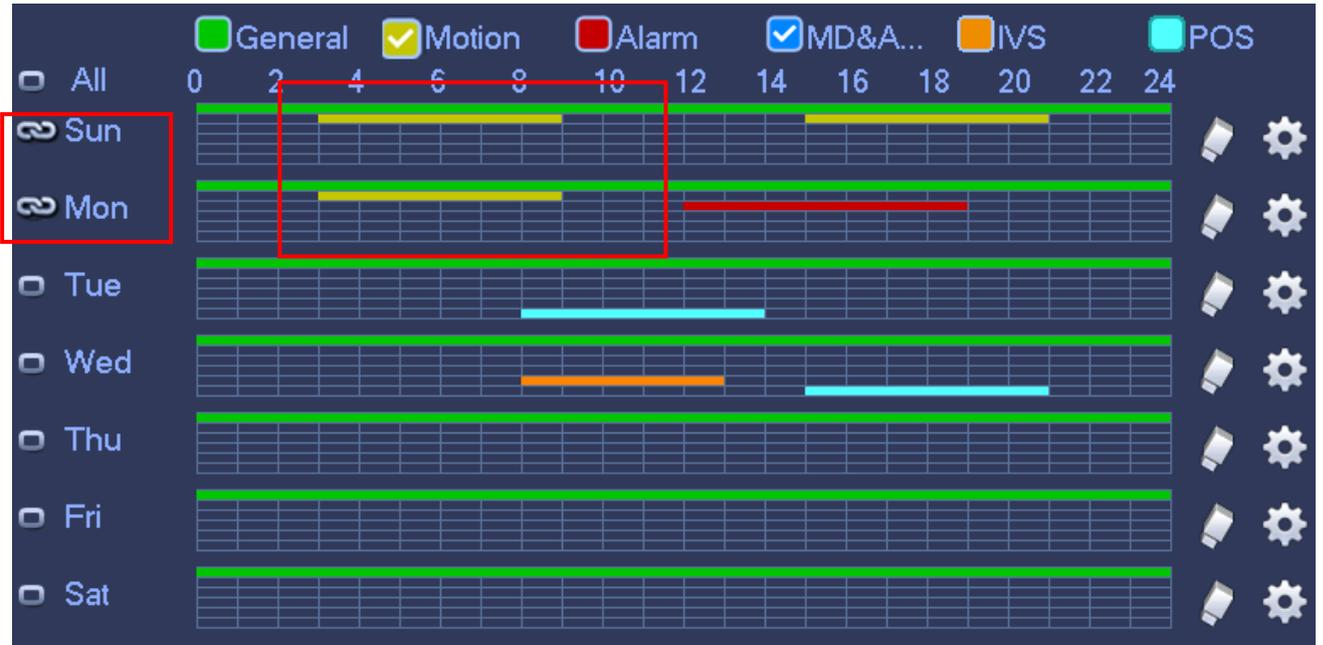

Figure 2-32
Step 3 Please draw manually to set record period. There are six periods in one day. See Figure 2-32.